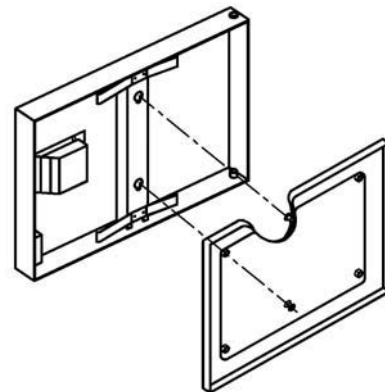

Figure 5-1 Door Gasket Assembly
- Remove the door gasket assembly (see Figure 5-1).